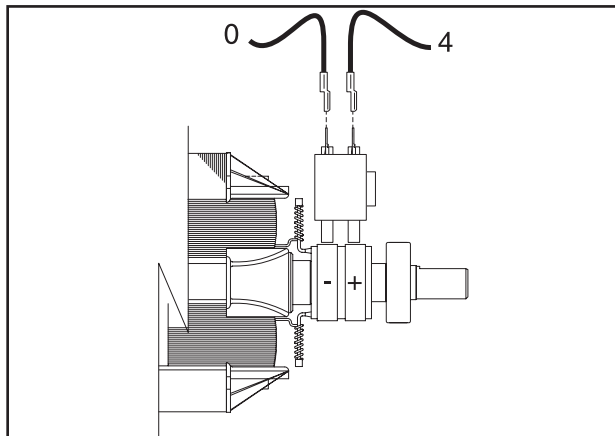

Figure 7. Checking Brushes and Slip Rings
1. See Figure 7. Carefully inspect brush wires, make sure they are properly and securely connected.